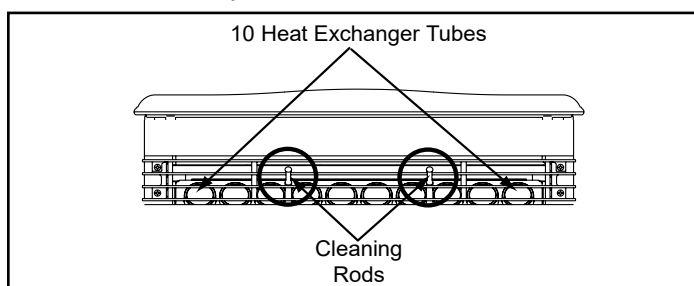

Figure 20.1
- Locate the 2 exposed rods directly underneath the heat exchanger tubes (**Figure 20.1**).